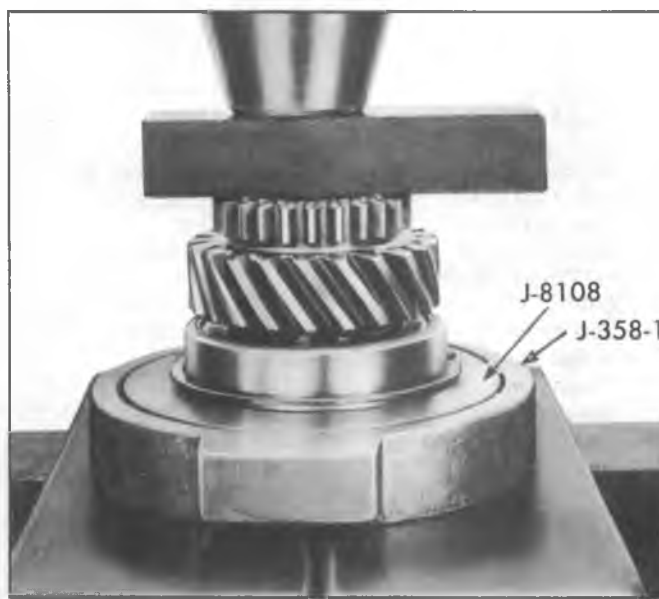

Fig. 8NP--Installing Clutch Gear Bearing
- Install bearing on shaft with bearing outer retainer ring toward pilot end (front) of shaft. Use Tools J-8108 and J-0358 to press bearing into position on shaft (fig. 8NP).